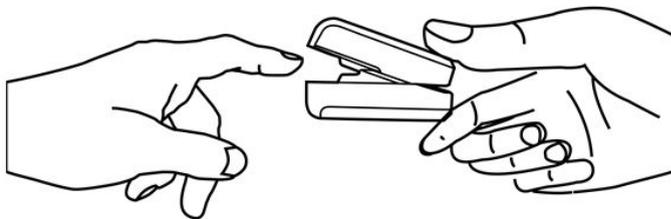

**Figure 3 Battery Installation**
- ✓ Refer to Figure 3; insert two AAA size batteries into the battery compartment properly, noting the polarity markings.